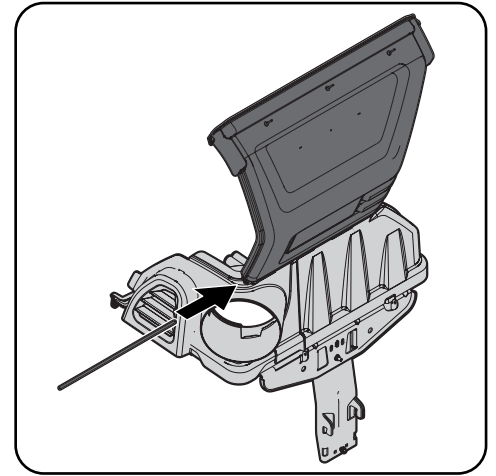

Figure 4-11
5. Install the bagger top cover by aligning the tabs of the cover and sliding the mounting pin into the channel as shown in Figure 4-11.